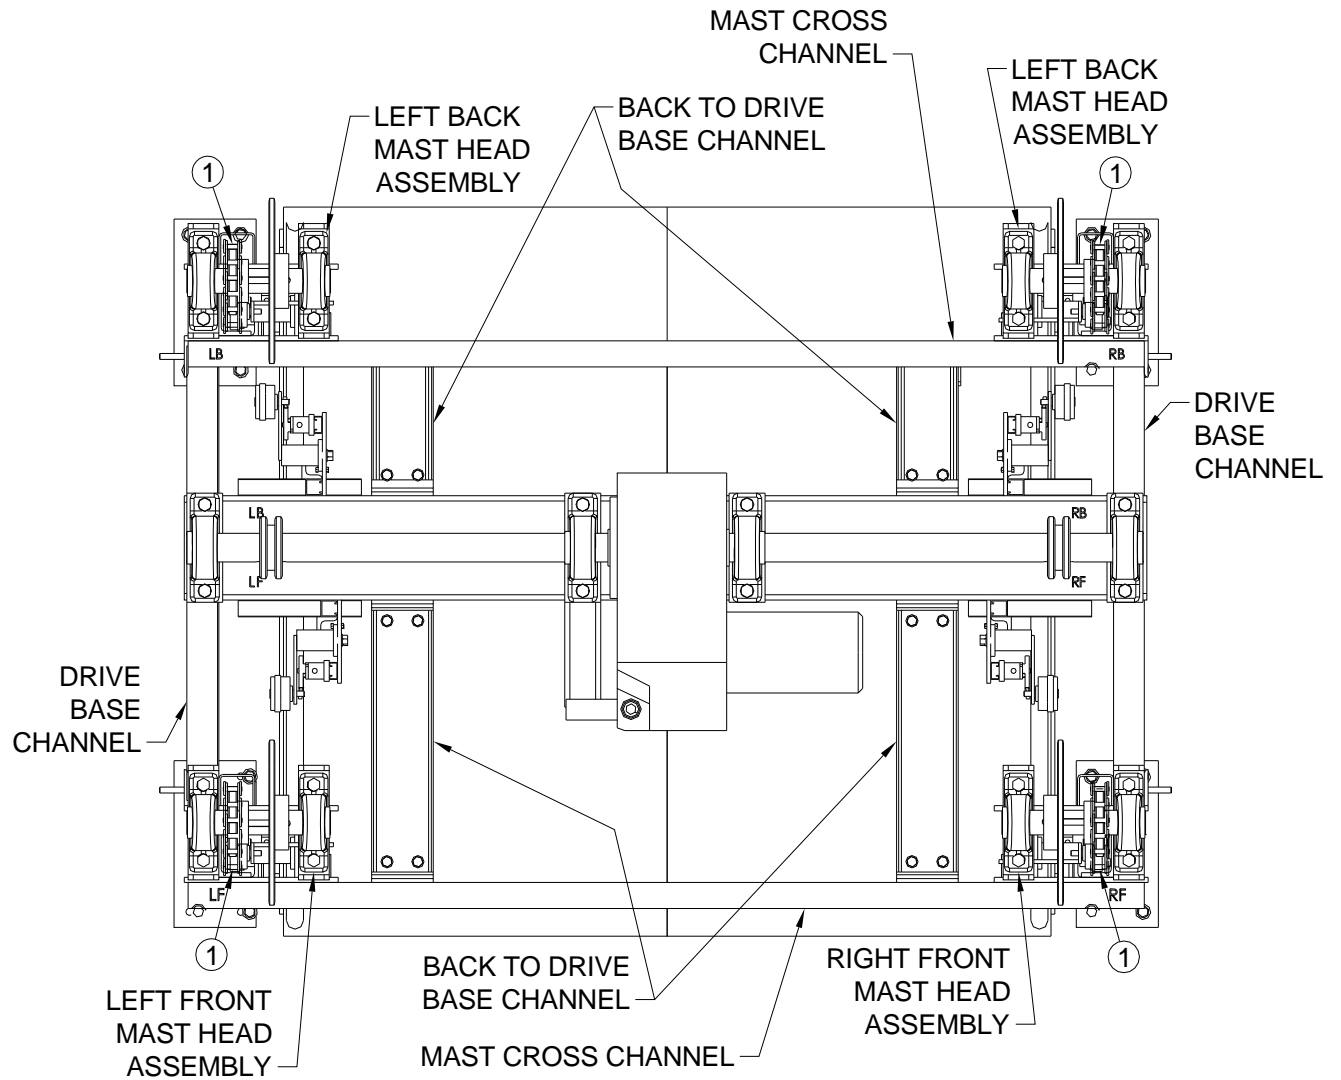

Figure 28 Completed Drive Base Layout – Top View
1. Familiarize yourself with the drive base layout on top of the lift, ensure that all components are present and oriented as shown in **Figure 28**.